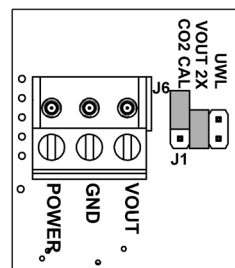

Fig. 6: J1 Set for 0 to 10 VDC Output
**Note:** The CO2 Output may be field configured for 0 to 5 or 0 to 10 VDC outputs at any time. Set the Jumper on J1 as shown in Fig. 6 & 7 below.